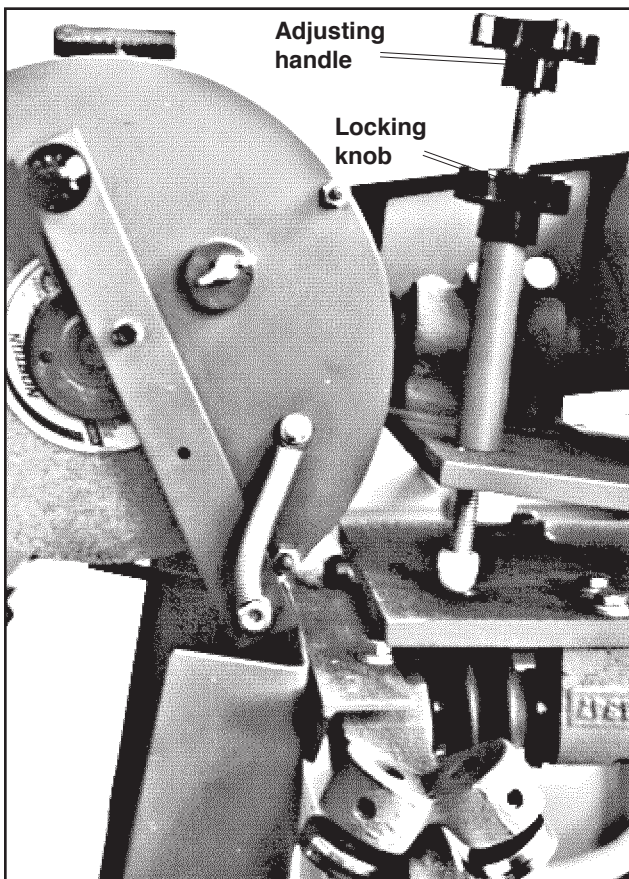

Figure 2.2 Grinding head vertical adjustment
2.1.3 Loosen the locking knob on the grinding head vertical adjustment and lower the grinding head until it is loose from the overhead support bar (see Figure 2.2).